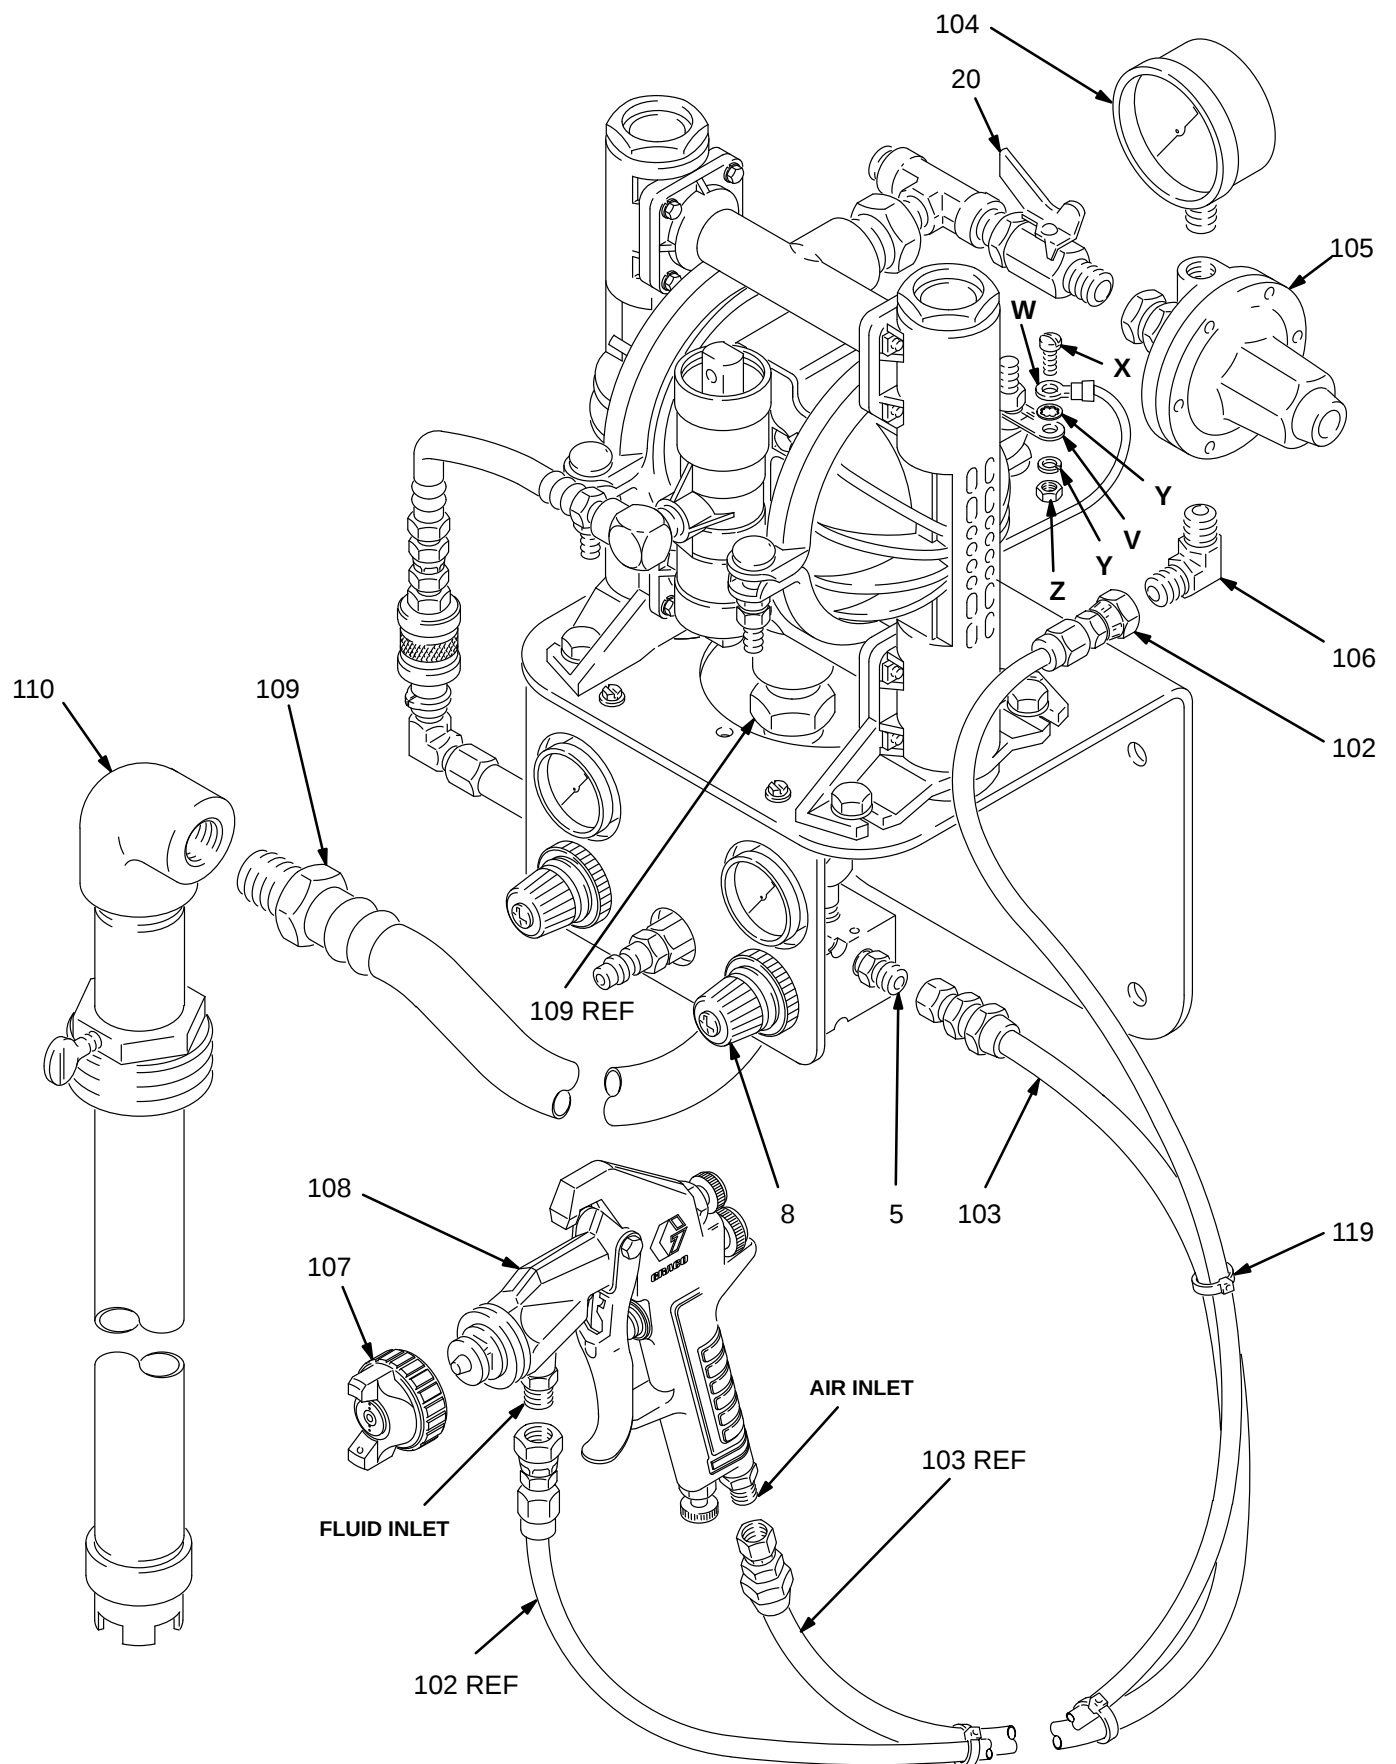

Fig. 2
2. Connect the suction hose (109) to the pump fluid inlet. Screw the suction tube (110) onto the loose end of the suction hose. Attach the suction hose ground wire (W) to the pump grounding tab (V), using the screw (X), nut (Z), and washers (Y) supplied with the pump. See Fig. 2.
3. Screw the swivel inlet of the fluid regulator (105) onto the ball valve (20) at the system fluid outlet. Screw the fluid pressure gauge (104) into the gauge port of the fluid regulator.
4. Connect the fluid hose (102) to the elbow (106) at the fluid regulator outlet. Connect the other end of the hose to the fluid inlet of the air spray gun (108). To provide additional fluid regulation, circulation, or agitation, refer to **"Fluid Regulation, Circulation, and Agitation Accessories"** on page 6.
5. Connect the gun air hose (103) to the adapter (5) at the outlet of the gun air regulator (8). Connect the other end of the hose to the air inlet of the air spray gun (108). Use the tie straps (119) supplied to tie the air and fluid hoses together.
6. Screw the gun air cap (107) onto the front of the air spray gun (108).
To achieve the most precise fluid pressure control to the gun, install a fluid regulator and gauge at the pump's fluid outlet. Refer to Fig. 2 for a view of a fluid regulator being installed on a pump.